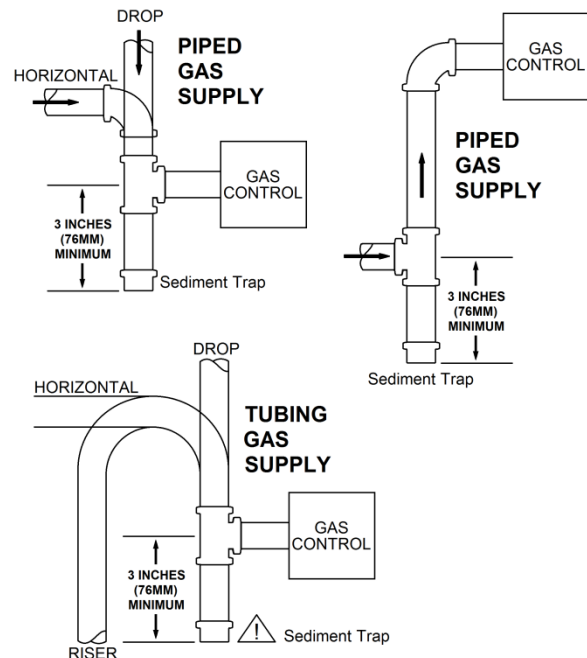

Figure 16 – Sample Gas Supply Sediment Traps
NFPA Code and Hearthstone require the use of a dedicated sediment trap just upstream of the unit. Damage to the valve, or other components due to the lack of a sediment trap are not covered by warranty (see figure 16).
- Install the sediment trap (where required) in the gas supply line to prevent contamination of the gas valve (*see figure 16*).